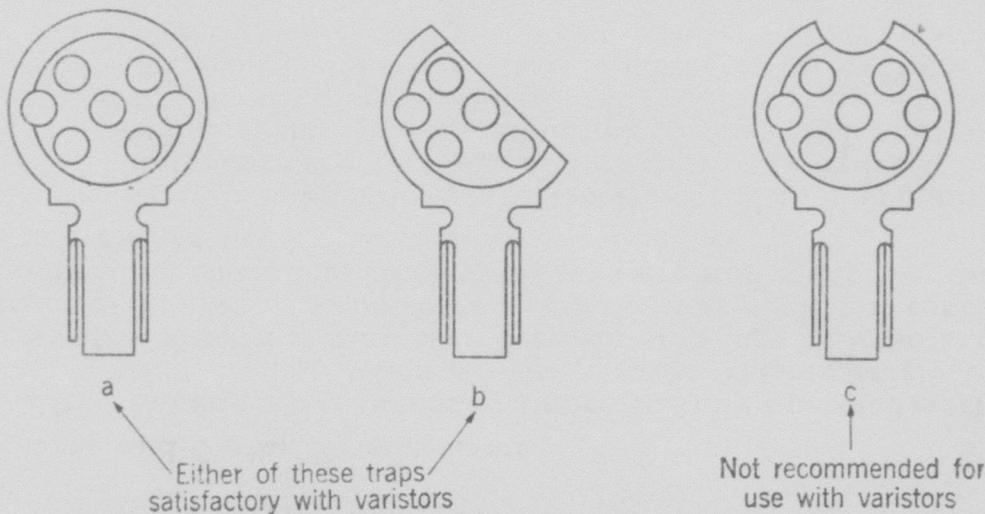

Fig. 2—Types of Traps
2.01 If varistor is to be installed, trap preferably should be of type shown in Fig. 2(a) or 2(b), rather than of type shown in Fig. 2(c).
Note: Traps shown in Figs. 2 (a) and (b) have been found to be less likely to result in sticking of coins between trap and hopper than the trap shown in Fig. 2(c). If a coin sticks, holding the trap down and the contacts open, the varistor is very likely to be damaged. Trap of type shown in Fig. 2 (b) should not be used for replacement purposes.